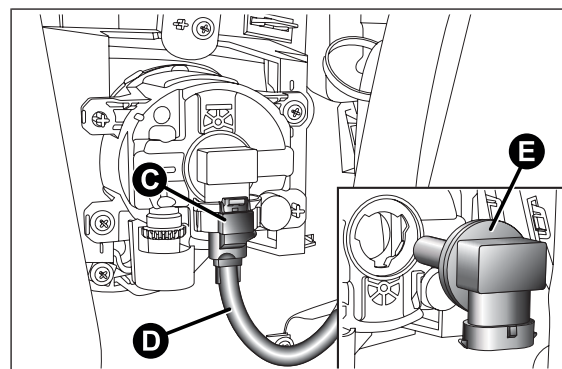

fig. 119
- ☐ adjust the catch C fig. 119 and disconnect the electrical connector D;